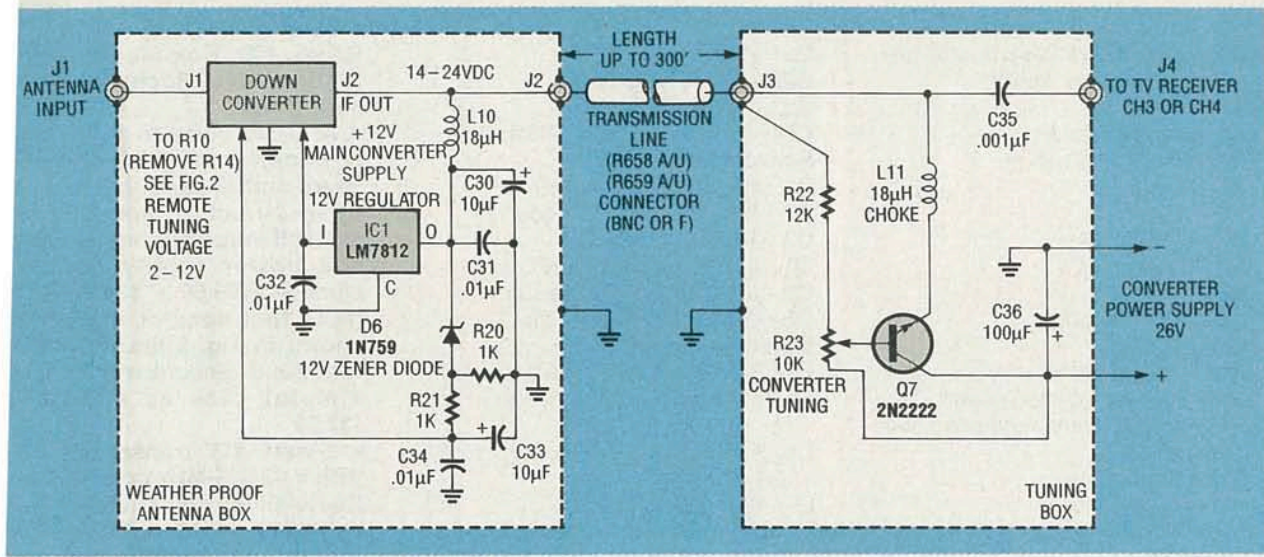

FIG. 3—THE DOWNCONVERTER can be supplied with an external DC voltage for remote-control tuning.
- A kit of parts to build the downconverter (includes PC board and all parts that mount on it, J1 and J2, and wire to wind all inductors (metal case and power supply not included)—\$59.50 + \$3.50 S&H (Note that none of the parts shown in Fig. 3 are included with the downconverter kit.)
Figure 3 shows how J2 can be connected to a long coaxial transmission line that runs to
Note that the components shown in Fig. 3 are not part of the downconverter board, and they are used only if remote operation is required.